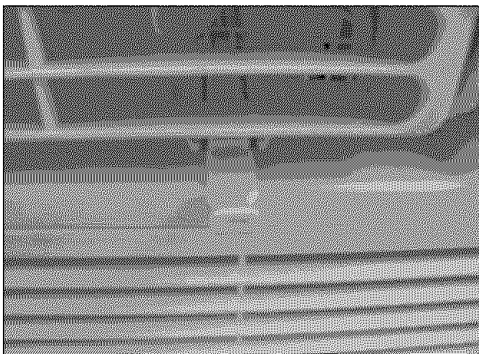

Figure 2 (VENT OPEN)
2. Draw fresh air into the room – Vent Open (see Fig. 2)